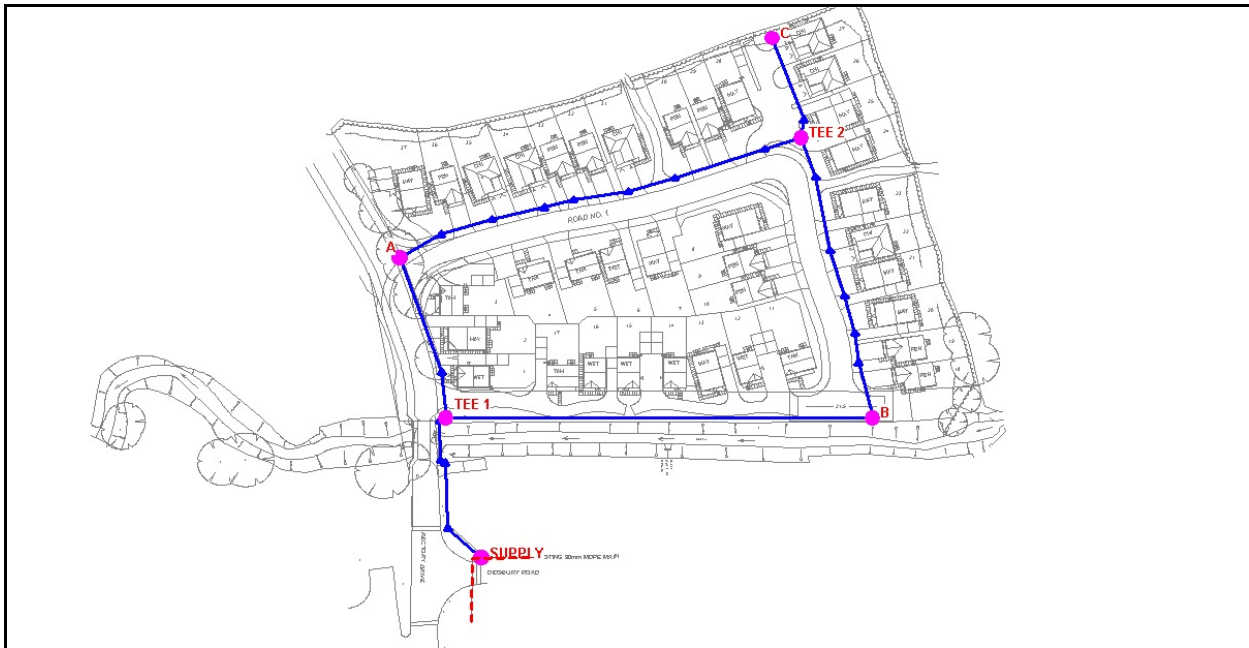

Figure 2
- Enter the remaining main line piping using the various Pipe Construction, *Zoom*, and *Pan* commands. Ensure that adjacent pipe ends are “snapped” together by using the “auto-snap” method when entering pipe From Node Locations. For now, use the default data values and settings for the remaining pipes and nodes, but change the Node Names as displayed on Figure 2. The completed piping system should look similar to Figure 2.